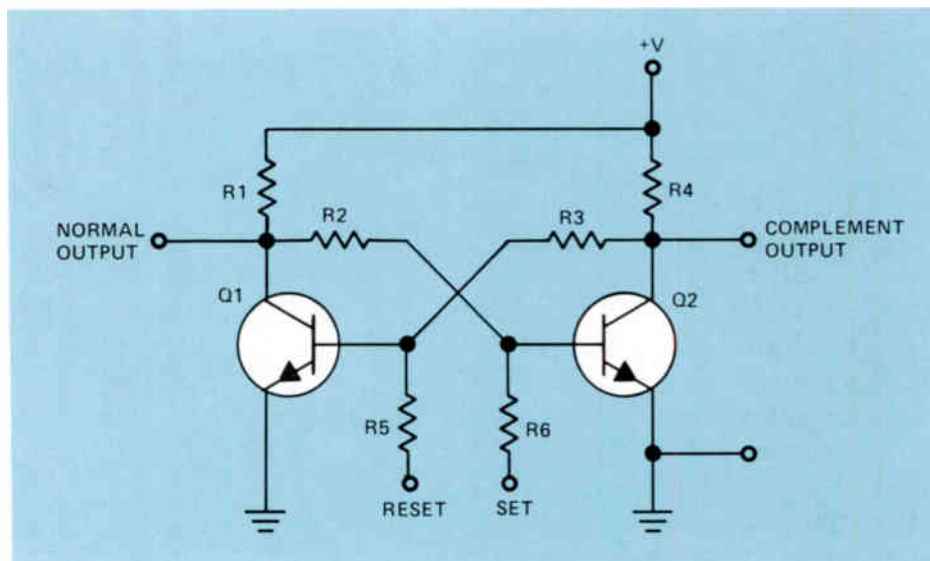

Figure 36. A set-reset flip-flop circuit.
shown in Fig.36. With the normal output taken from the collector of Q1 when the transistor is cut off, the collector voltage will go to +V, which will represent a binary 1 with positive logic. When Q1 is cut off, Q2 will saturate.
- 22 If the flip-flop circuit shown in Fig.36 is storing a binary 0 in the normal output, how do we change it to store a binary 1?
10. If a logic level 1 is stored in the normal output of the set-reset flip-flop shown in Fig.36: